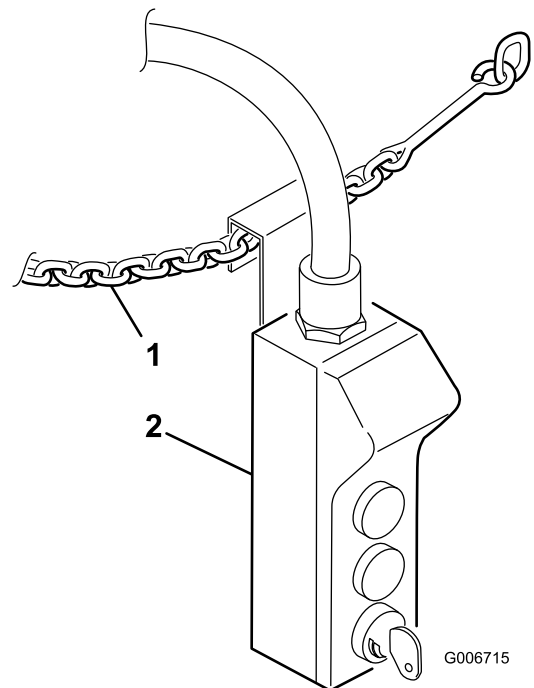

Figure 25
3. Climb into platform and secure safety chains across entry (Figure 25).